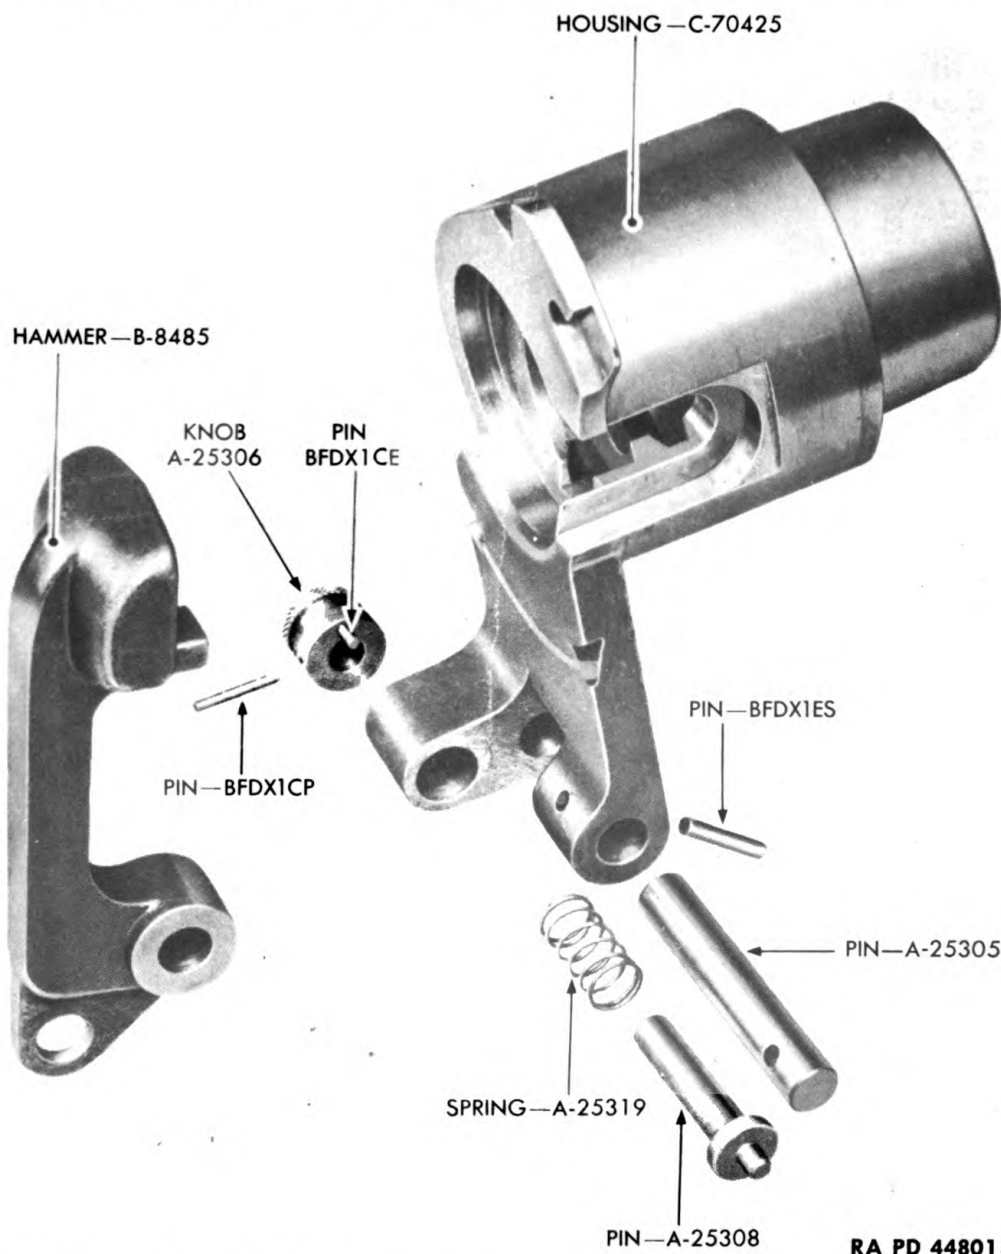
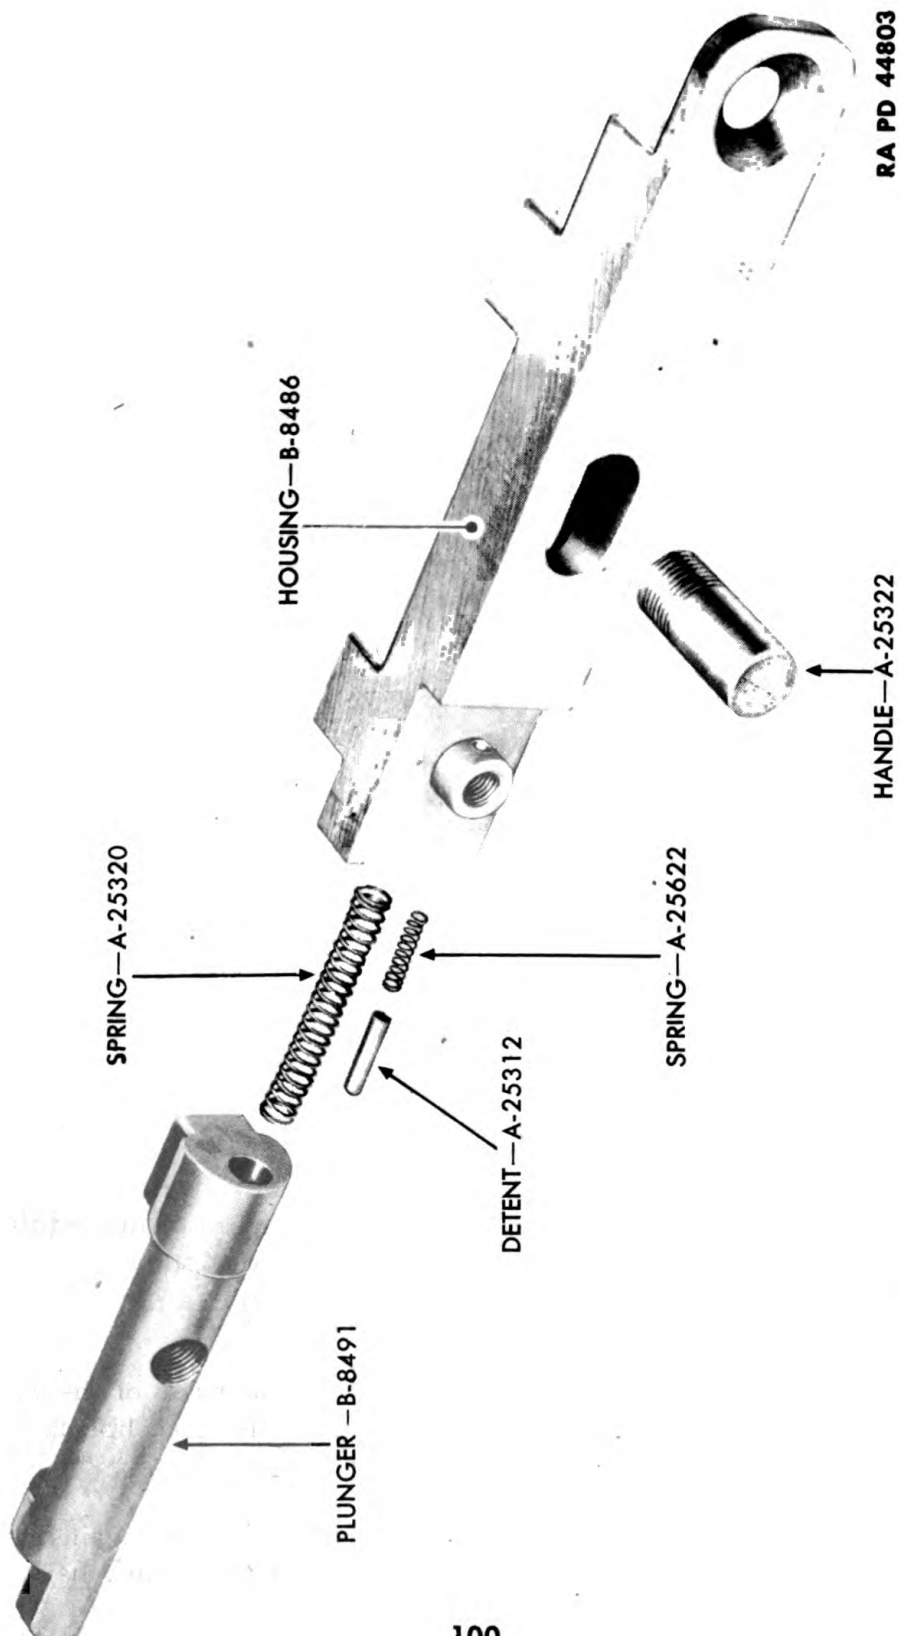

Figure 71—Firing Mechanism Receiver Housing—Exploded View
Figure 72—Firing Mechanism Safety Plunger Group—Exploded View
k. Disassemble Firing Mechanism Receiver Housing Assembly (fig. 71).
(1) Place the firing mechanism receiver housing assembly in a vise fitted with copper jaws. Drive pin BFDX1ES from pin A25305 and housing C70425; then drive pin A25305 out of housing and remove percussion hammer B8485.
(2) Remove pin BFDX1CP from knob A25306 and pull knob off. Tap locking pin A25308 and spring A25319 out of housing C70425.
1. Disassemble Firing Mechanism Safety Plunger Housing Assembly (fig.72).
(1) Slide safety plunger spring into hole in end of safety plunger and slide both into position in safety plunger housing (fig. 72).
(2) Put thin film of COMPOUND, rust-preventive, light, on plunger handle threads. Secure safety plunger and spring in place by screwing safety plunger handle into plunger through slot in front face of safety plunger housing.
(3) Install detent spring and detent in safety plunger housing.
(4) Lubricate assembly thoroughly with OIL, engine (seasonal grade).
b. Assemble Firing Mechanism Receiver Housing Assembly (fig. 71).
(1) Place percussion hammer locking pin spring on percussion hammer locking pin. Insert both in position in firing mechanism receiver housing, with end of locking pin protruding from the housing.
(2) Slide percussion hammer locking pin knob in position on protruding end of locking pin. Secure with a $\frac{1}{8}$ - x $\frac{7}{8}$ -inch straight pin. Peen both ends of straight pin.
(3) Place percussion hammer in position, and lightly tap percussion hammer pin into receiver housing and percussion hammer. Secure with a $\frac{3}{16}$ - x $1\frac{1}{8}$ -inch straight pin. Peen both ends of straight pin.